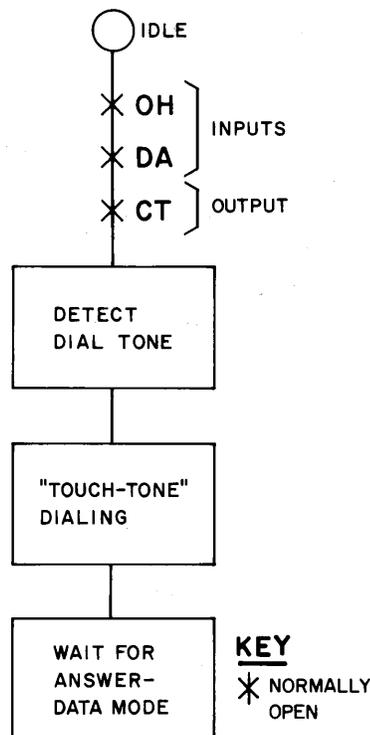

Fig. 5—Customer Automatic Calling Sequence Diagram—TOUCH-TONE Dialing
2.17 Automatic calling may also use TOUCH-TONE signaling for call origination (Fig. 5). As previously stated, closing the OH and DA leads to -V causes the coupler to go off-hook and provides a transmission path between the data terminal and the telephone line. When dial tone is present, multifrequency signals are generated to access the switched network. The customer may then wait for answer tone or for a verbal answer before transmitting data.